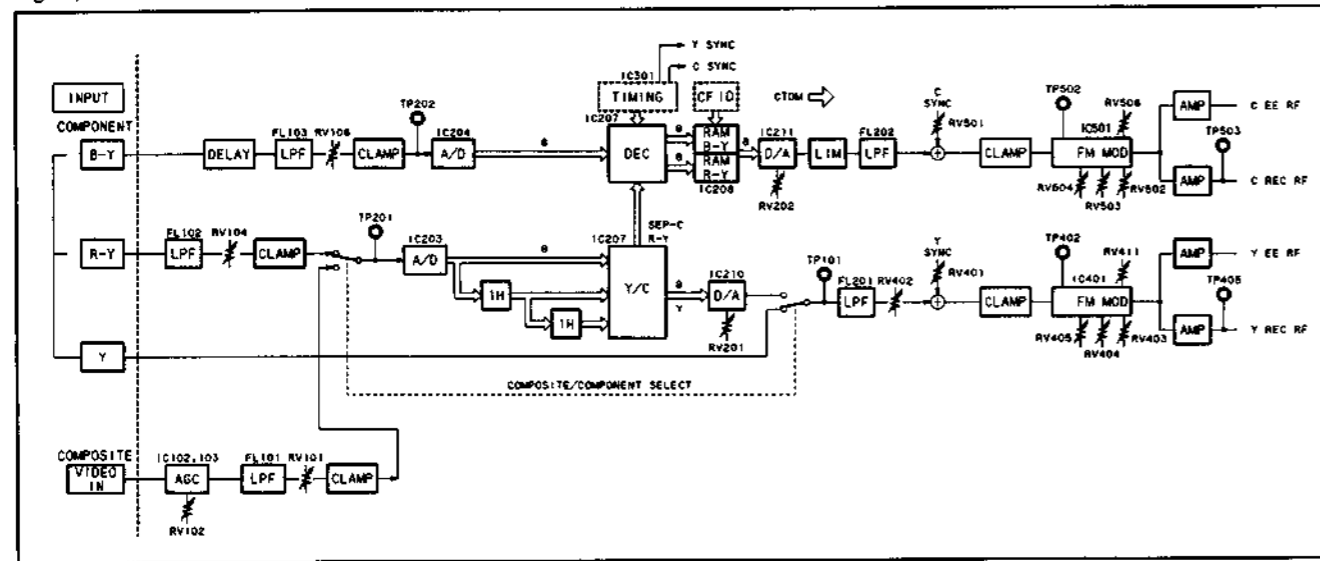

Fig. 1
The process is shown as fig.1. After A/D converting, the input signals are separated as Y/C, converted as component signal at decoder. The converted each signal is sent to process of luminance signal (Y) system, B-Y and R-Y send to process of chroma signal (C) system. After that, Y-signal which added synchronized signal is FM-modulated and recorded at Y-R/P head. On the other side, chroma signal add B-Y and CFID (Color Framing ID), and is time-compressed to record within the time of 1H. The process is read back alternately R-Y by the double-pulsed clock of memory-write, then time-compressed to half. This compressed signal is called CTDM signal. The chroma signal resulted in CTDM signal is FM-modulated after phase adjustment with Y signal, recorded at C-R/P head.